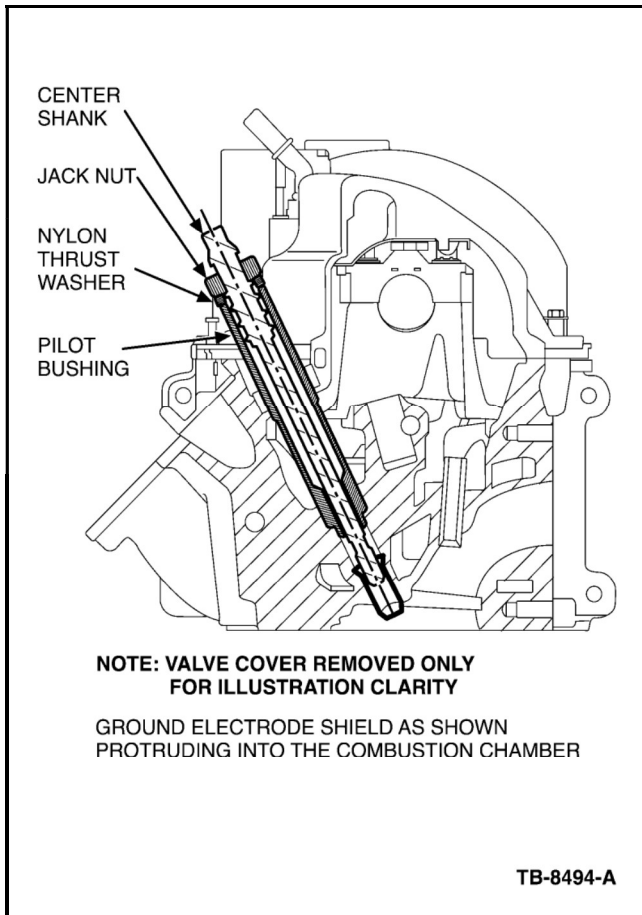
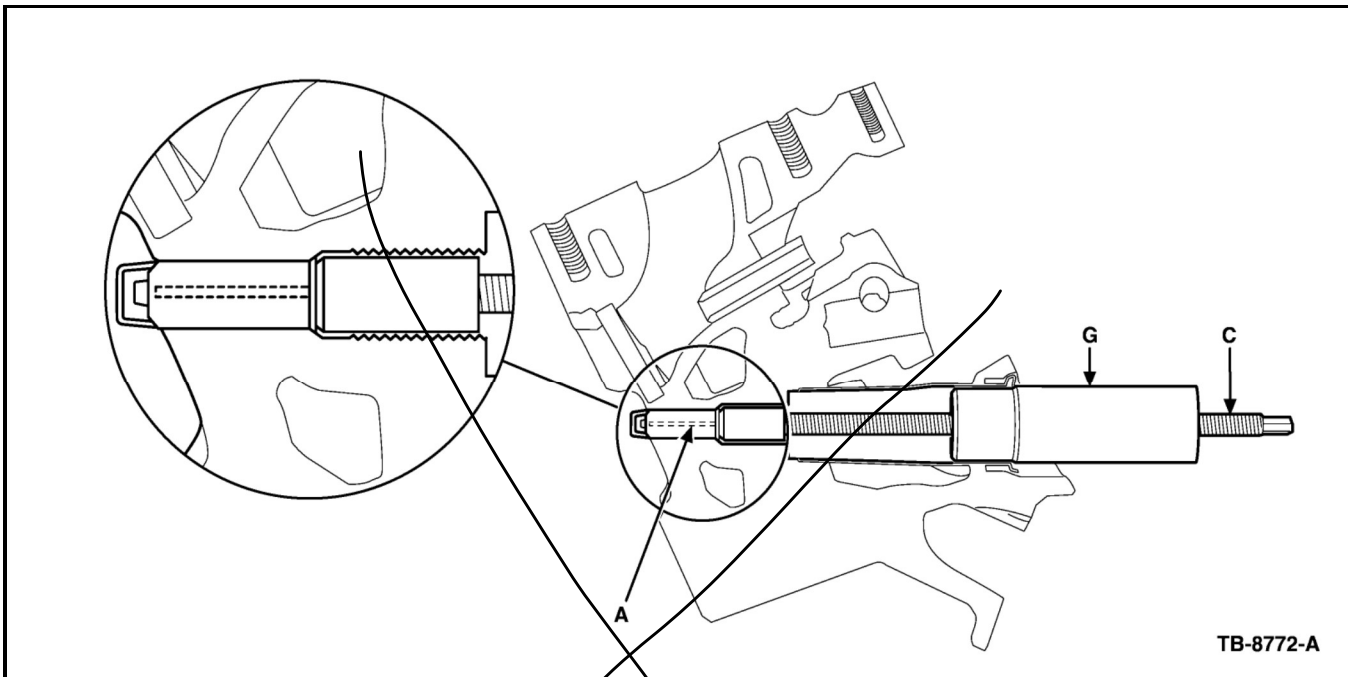

Figure 9 - Article 08-7-6
Figure 19 - Article 08-7-6
4. Thread Rotunda special service tool 303-1203 into the ground electrode shield. (Figure 9)
- Leave the pin fully inserted in the porcelain while the adhesive cures. Replace the steel tool pilot with the aluminum alignment sleeve (G), Figure 9, to support the threaded rod while the adhesive cures if additional porcelain fragments are present in other cylinders. (Figure 19).